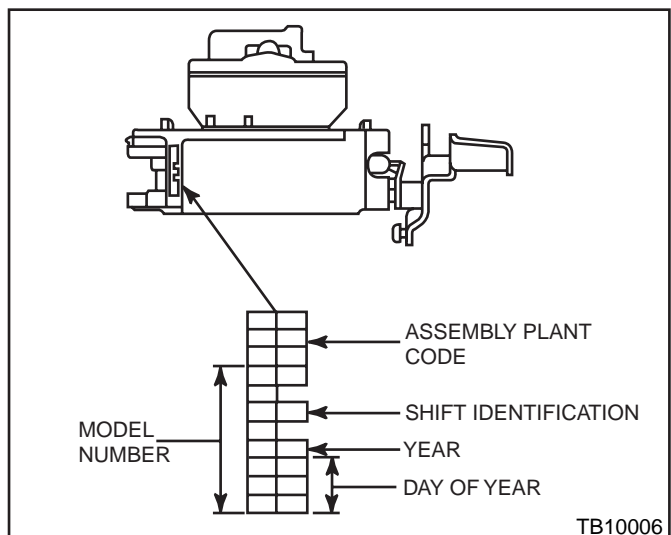

Figure 3-13 - TBI Identification
**Notice:** Use care in removing the fuel injectors to prevent damage to the electrical connector terminals, the injector filter and the fuel nozzle. The fuel injector is serviced as a complete assembly only (refer to Figure 3-13). Also, since the injectors are electrical components, they should not be immersed in any type of liquid solvent or cleaner, as damage may occur.